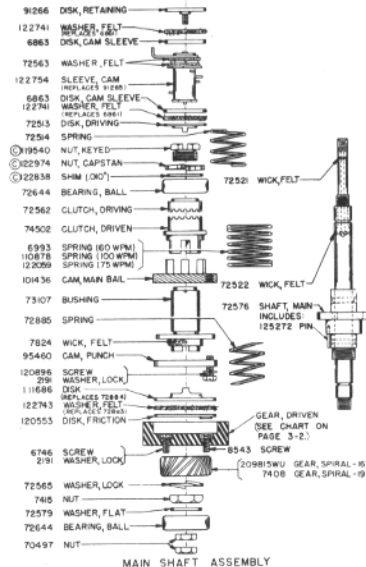
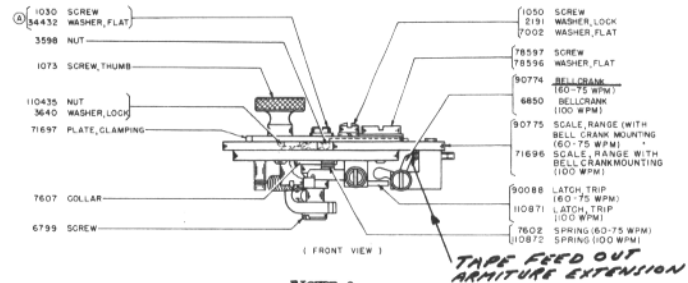

FIGURE 1
FIGURE 3
Now that we have struggled through the first QSL, it won't be necessary to start from the very beginning on the one shown in Figure 3. The trick here is to take a copy of the QSL of Figure 1, put it back in the printer, and then carefully type a line of "O"'s to cover the open spaces only, followed by a carriage return with no line feed and an over-printing of "X"'s. Note that this new QSL has an added feature -- a place for name and address, as on a postcard. When you run out of your printed QSLs you can easily run off a RTTY QSL card. The data can be filled in on the printer or with pen or pencil. Crease the copy at the bottom of the design and paste it to a 4" x 6" file card. After the paste hardens, trim the card to size, and it is ready for mailing.
- 1 - Remove the range finder (Fig. 3) by removing its two mounting screws. If the machine is equipped with "tape feed out", the feed out lever also will be removed in this operation.
- 2 - Referring to Fig. 1, remove the large headed retaining disk marked LEFT HAND THREAD, which screws into the top of the main shaft.
The typing unit should now be turned on its left side and, while referring to Fig. 1, 2, and 4, proceed as follows:
With the main shaft out of the machine and while referring to Fig. 1, disassemble as follows:
The main shaft parts should now be re-assembled while referring to Fig. 1. The felts should be soaked with light oil during assembly.
Reassemble the punch arm, complete with spring. Replace range finder, making sure the pointed extension on the tape feed out armature fits between the bell crank and the frame of the range finder (Fig. 3)